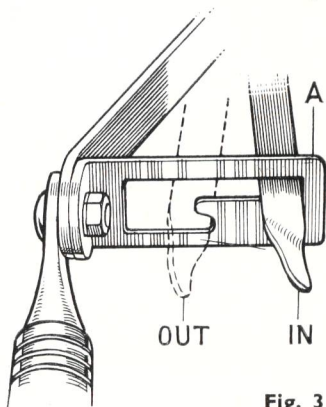

Fig. 3
5. See that the clutch lever (Fig. 3) is in the "OUT" position.